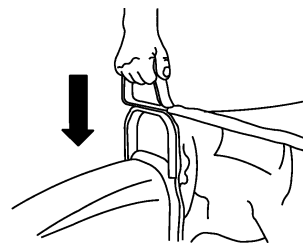

Figure 39
15. Grasp the bag assembly handle and slide the over the flange of the grass chute (Fig. 39). Push downward on the handle until it seats into position.